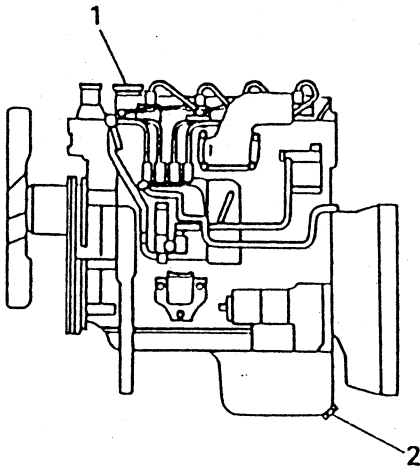

Fig. 33 Engine
- 1 Clean the area around the oil filler cap 1 of Fig. 33 and remove the filler cap.